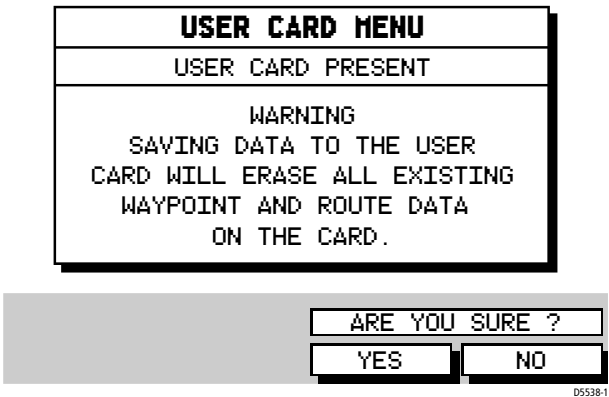

Figure 3-46: Save Warning and Soft Keys
4. Press the SAVE WPT/RTE DATA TO CARD soft key; the warning and Yes/No soft keys are displayed, see *Figure 3-46*.